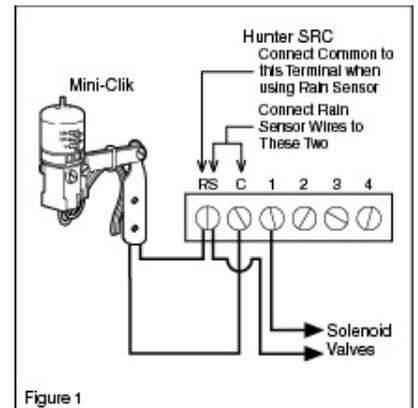

Figure 1
1. Connect one wire to the RS terminal and other to the C terminal (See Figure 1).
- [3] http://www.hunterindustries.com/sites/default/files/ts_miniclik_fig1.gif